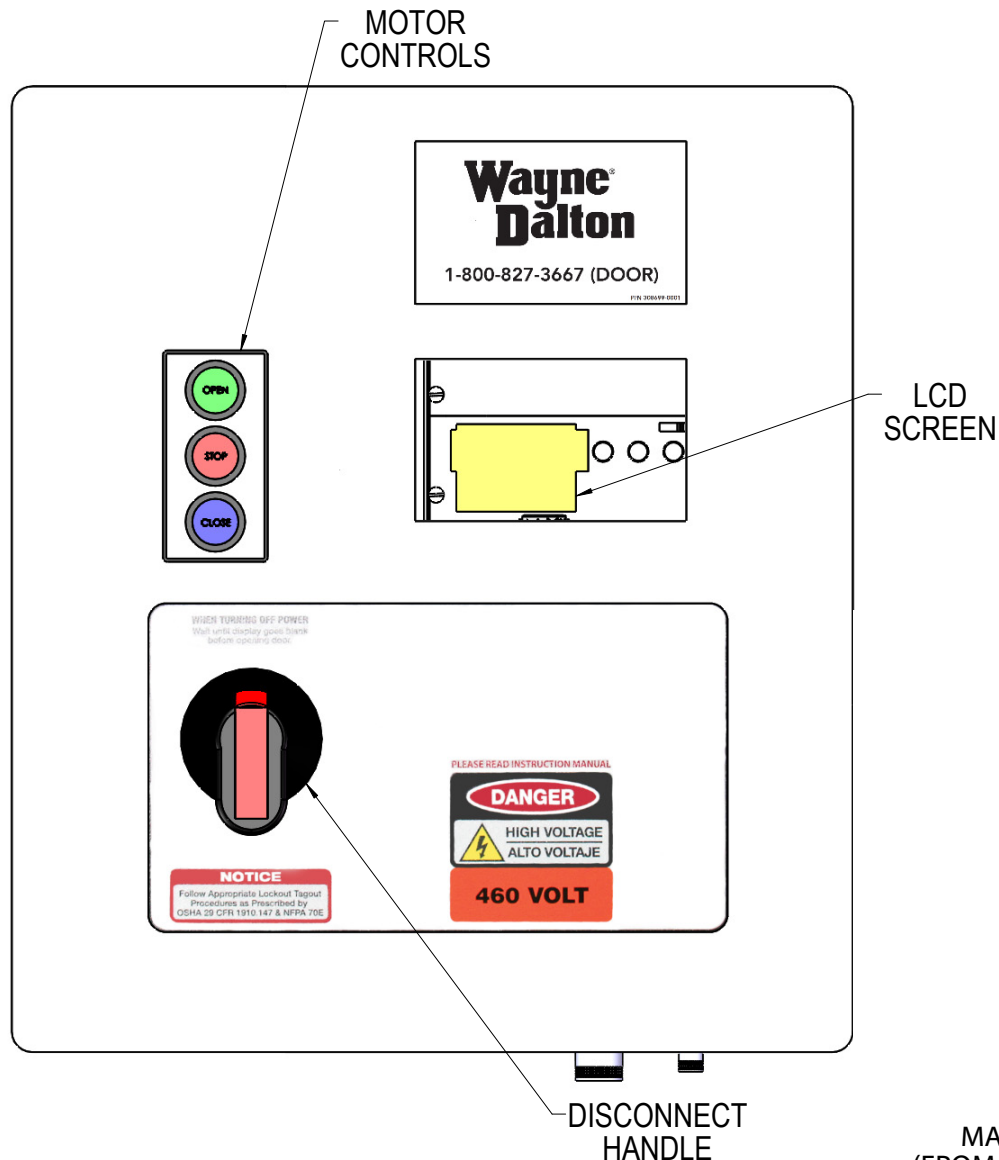

Fig 17 Control Panel Front Cover
1. MAIN COMPONENT OVERVIEW, FIG 17 AND 18